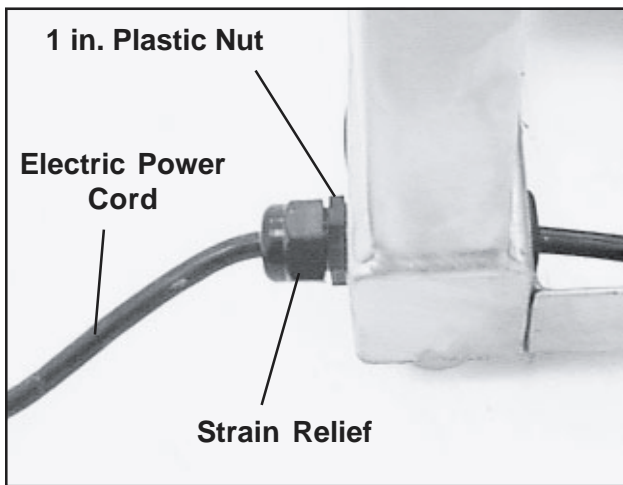

Figure 40. Electric Power Cord, Strain Relief & Nut
7. With a 1 in. open-end wrench, unscrew the black plastic strain relief (Figure 40).